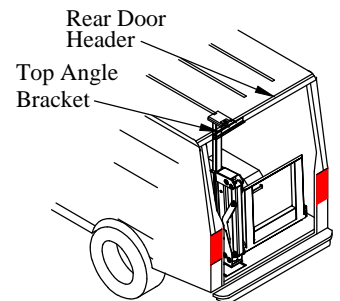

Figure 9: Liftgate in rear opening.
3. **Position** the liftgate in the rear opening such that the top angle bracket comes in contact with the rear door header (Figure 9).